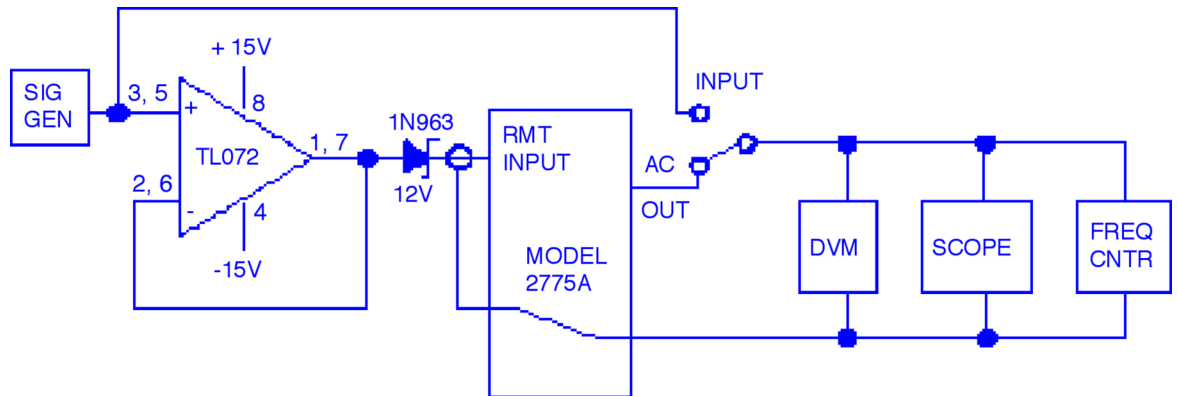

FIGURE 5-12: REMOTE GAIN
Set the FUNCTION switch to OUT CAL and the FULL SCALE switch to 3K. Measure the ac amplitude at U17 pin 7 and adjust the AC ADJ for exactly this ac reading times .9852 at the AC OUT. Set the FUNCTION switch to OP and set the back panel MODE switch to RMT and connect a 1 KHz sine signal through the current blocking circuit (fig 5-12) to the REMOTE INPUT (J4). Set the MUTIPLIER switch to 1 and set the FULL SCALE switch per the following table.
- A. The low frequency response must be measured using an oscilloscope or a special low frequency measurement device (such as a Solartron 1250 Frequency Response Analyzer). Use the previous setup. Set the FULL SCALE switch to 100. Set sensitivity to 1.00. Set multiplier to 1.0. Set the FUNCTION switch to OP and adjust the input level to read 1.000 Vrms at the AC OUTPUT. Adjust the frequency and make the following readings; (Same set-up as Figure 5-12).
- B. The high frequency roll off is determined by the full scale range selected in combination with the multiplier. Set the AC OUTPUT to 1.00 V rms at 1 KHz for the reference frequency point. By adjusting the input source increase the frequency until the AC OUTPUT drops to the -5% point and record the frequency, next increase the frequency until the AC OUTPUT drops to the - 30% (-3dB) point and record the frequency. Readjust the input source until the AC OUTPUT reference is 1.00 Vrms at 1 KHz for each full scale range. The frequency recorded should be greater than the frequency listed for each full scale range (Figure 5-12).